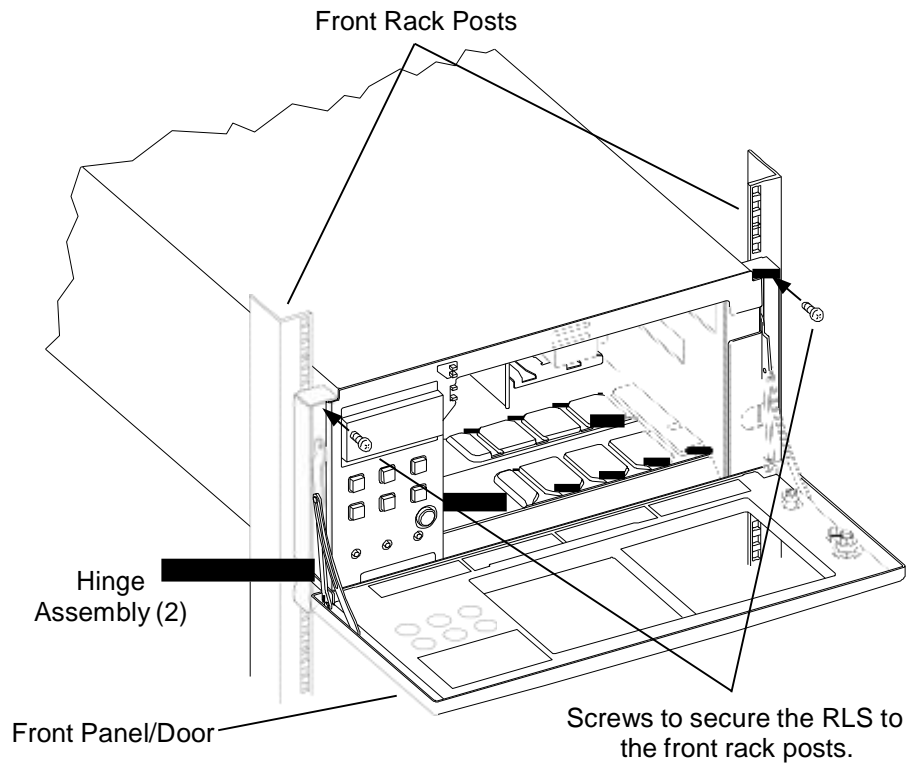

Figure 5-28 Detail of the Screws Securing the RLS to the Front Rack Posts
9. Insert one of the screws through the oblong opening in the front of the RLS cabinet just above the hinge assembly on the left side of the RLS. See Figure 5-28. Use a Phillips screwdriver to thread the screw into the rack post and tighten it securely.